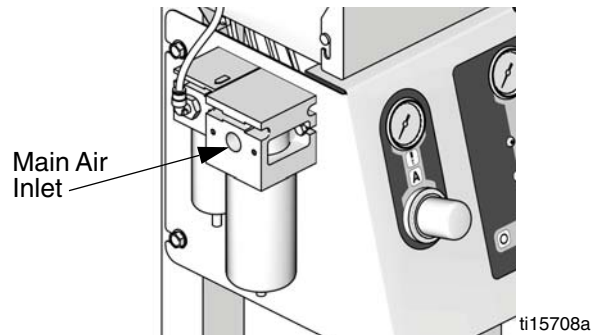

FIG. 3. Air Supply Inlet
2. Connect the main air supply line to the main air inlet. This air line supplies the solenoids, valves, and pumps. See FIG. 3.